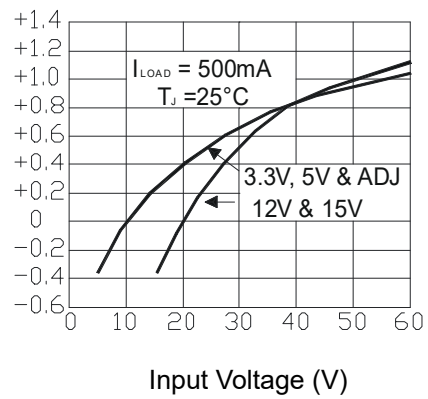

Figure 2: Line Regulation
System Parameters (Note 3) Test Circuit Figure 2 (LM2576 3.3, LM2576HV-3.3)
System Parameters (Note 3) Test Circuit Figure 2 (LM2576 - 5.0, LM2576HV - 5.0)
System Parameters (Note 3) Test Circuit Figure 2 (LM2576 -12, LM2576HV -12)
System Parameters (Note 3) Test Circuit Figure 2 (LM2576 15, LM2576HV - 15)
System Parameters (Note 3) Test Circuit Figure 2 (LM2576-ADJ, LM2576HV -ADJ)
Note 3: External components such as the catch diode, inductor, input and output capacitors can affect switching regulator system performance. When the LM2576/LM2576HV is used as shown in the Figure 2 test circuit, system performance will be as shown in system parameters section of Electrical Characteristics.
11.1 Typical Characteristic (Circuit of Figure 2)